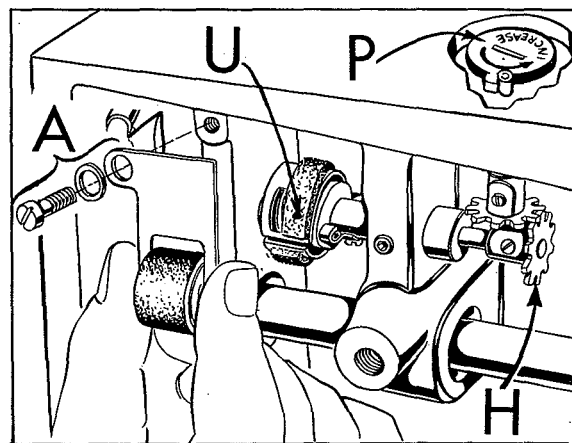

Fig. 27
12. Assemble the hook oil feed roller (A, Fig. 27), and rotate the metering cup so that the roller contacts the metering cup felt at point (U, Fig. 27). Turn the oil control adjusting shaft (P, Fig. 27) in the increase direction until projection stops against the stop pin (this is maximum oil supply) and install the cog (H, Fig. 27) on the hook oil control shaft. After meshing the teeth, tighten set screw securely.